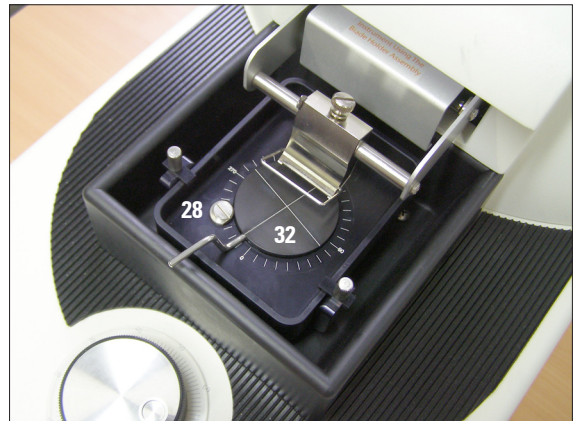

Fig. 14
- Then screw the specimen bath securely in place using the clamping pieces (29) and knurled screws (30) on both sides of the u-frame bracket.
- Insert the specimen disc (32) on the surface provided and clamp it in place by tightening the slotted cam screw with a screw driver (28) (Fig. 14).